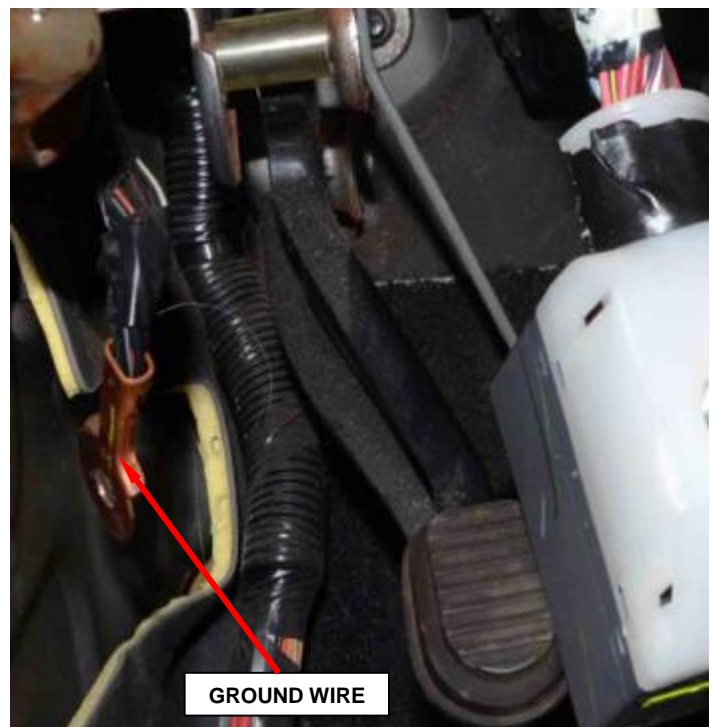

Figure 110 – Bolt and Ground Location
20. Remove the bolt and the ground from the left A-pillar (Figure 110).